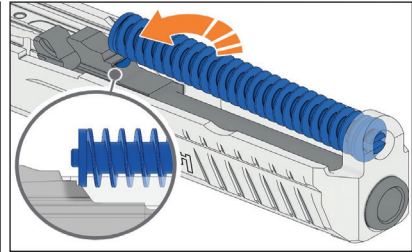
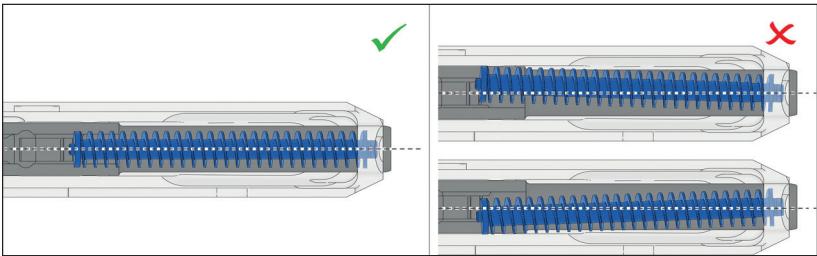

Figure 29 – Rest recoil spring
Figure 30 – Installation position of recoil spring
4. Brace recoil spring on the control surfaces on the barrel (Fig. 29). Note installation position of recoil spring. (Fig. 30).